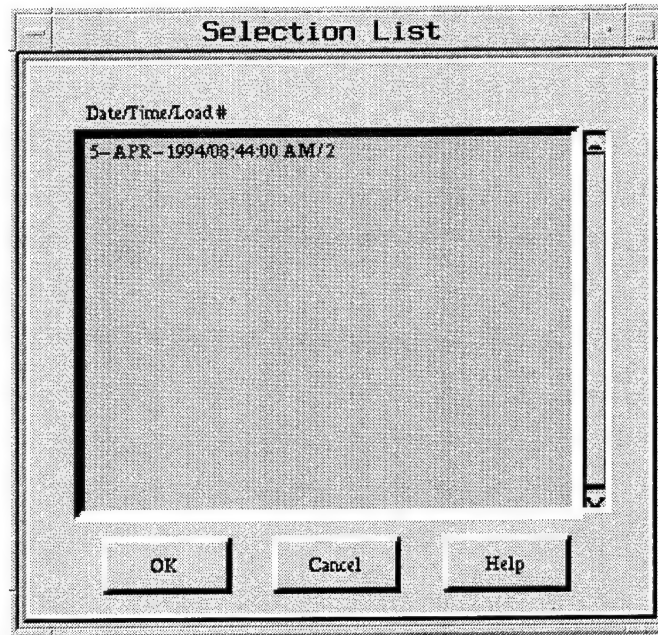

Figure 38. Individual downtime events **Selection List** screen
- Click on **OK** to display a list of the downtime events (Figure 38).